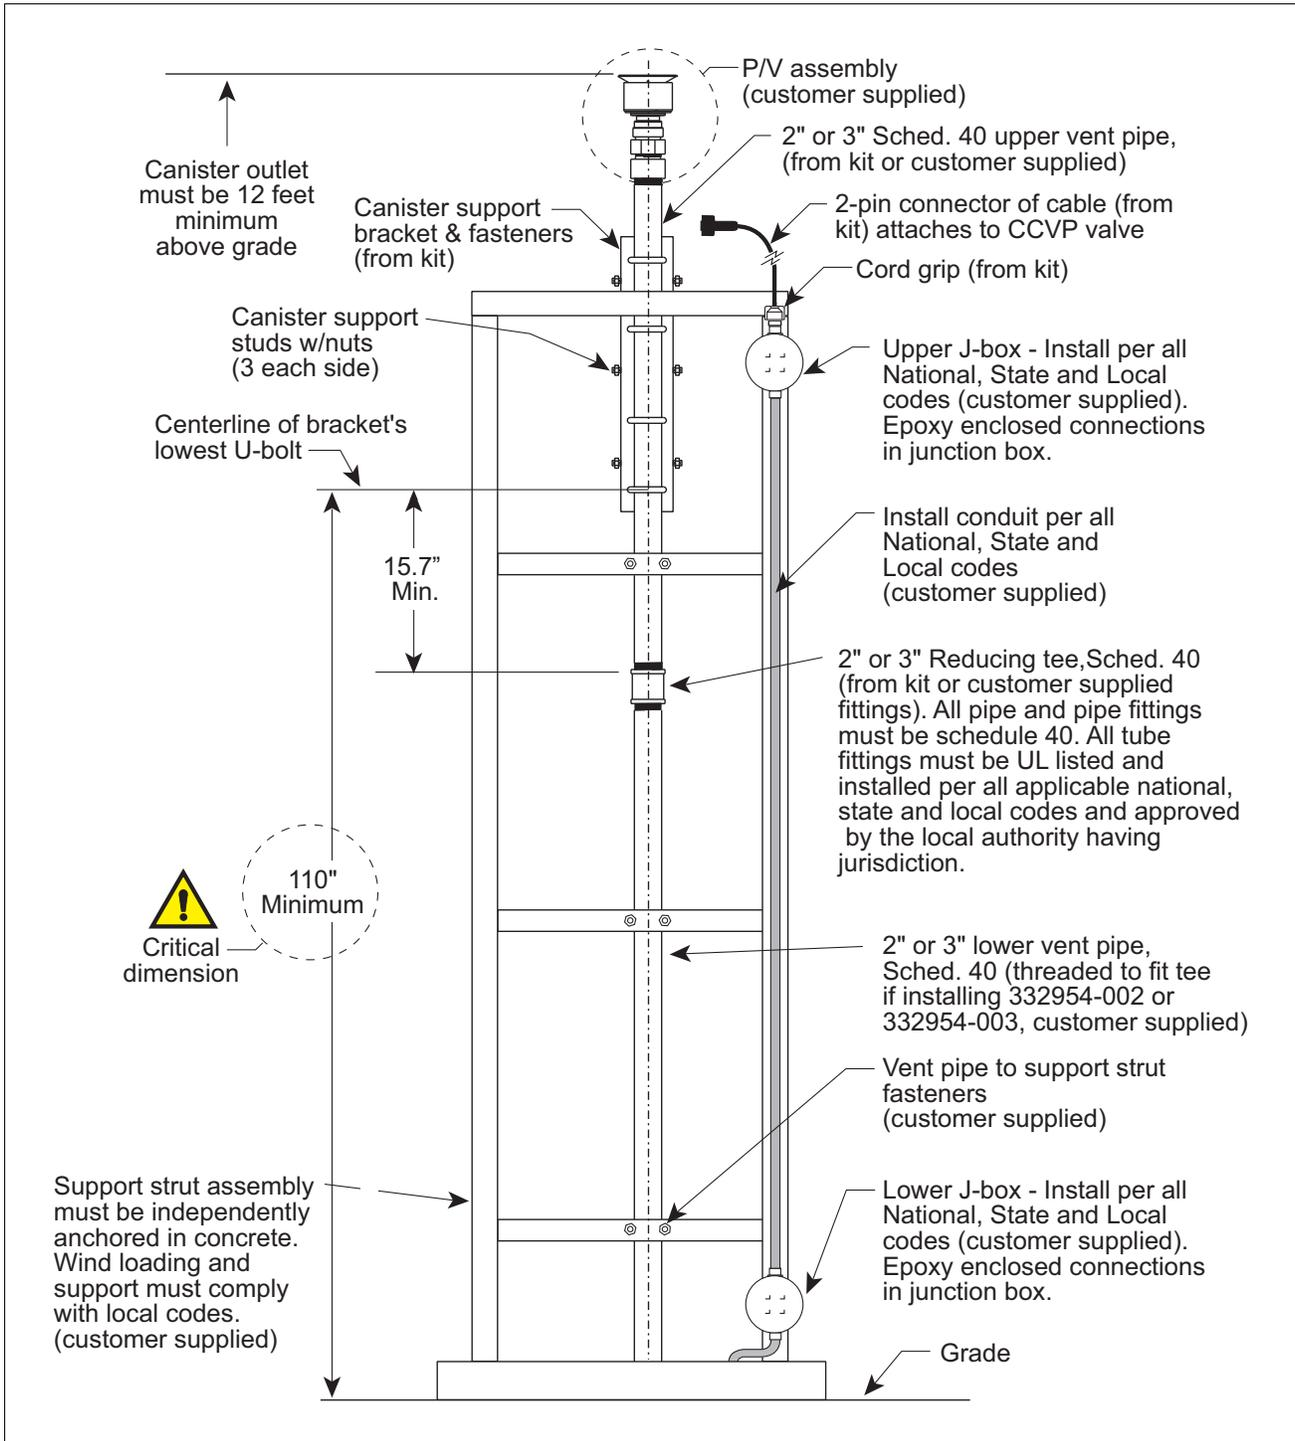

Figure 1. Typical direct wired installation example
6.  **IMPORTANT! To assure that the canister outlet is 12 feet (minimum above grade, the CCVP mounting bracket must be located as shown in Figure 1 and the U-bolts tightly clamped to the vent pipe before mounting the canister.**
9. Install weather tight junction boxes (2 required) and conduit per all NEC, State and local codes (see example installation in Figure 1).